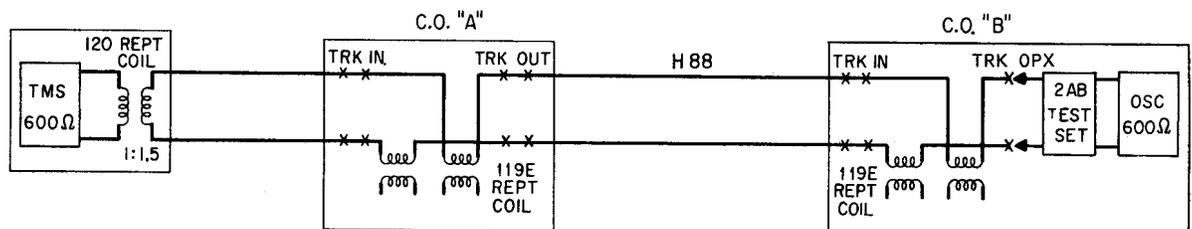

Fig. 7 — Frequency Response Measurements of Backbone Route
6.02 The frequency response of the backbone route should be measured from the most remote central office to ARB headquarters. If the backbone route is split, measurements should also be made from the most remote office on the branch. Measurements should be made in accordance with Fig. 7 which is a typical testing arrangement. **ALL BRIDGING CIRCUITS AND LOOPS SHOULD BE CONNECTED NORMAL BEFORE MAKING THE TEST.** All repeaters should be strapped for their normal operating condition.
1	Connect the MEAS jack of the 2AB set to the TRK OPX jack of the jack access circuit as shown in Fig. 7.
2	Connect test equipment to the 2AB set as shown in Fig. 7.
12	If requirements are met, dismantle equipment at central office "B" of Fig. 7.